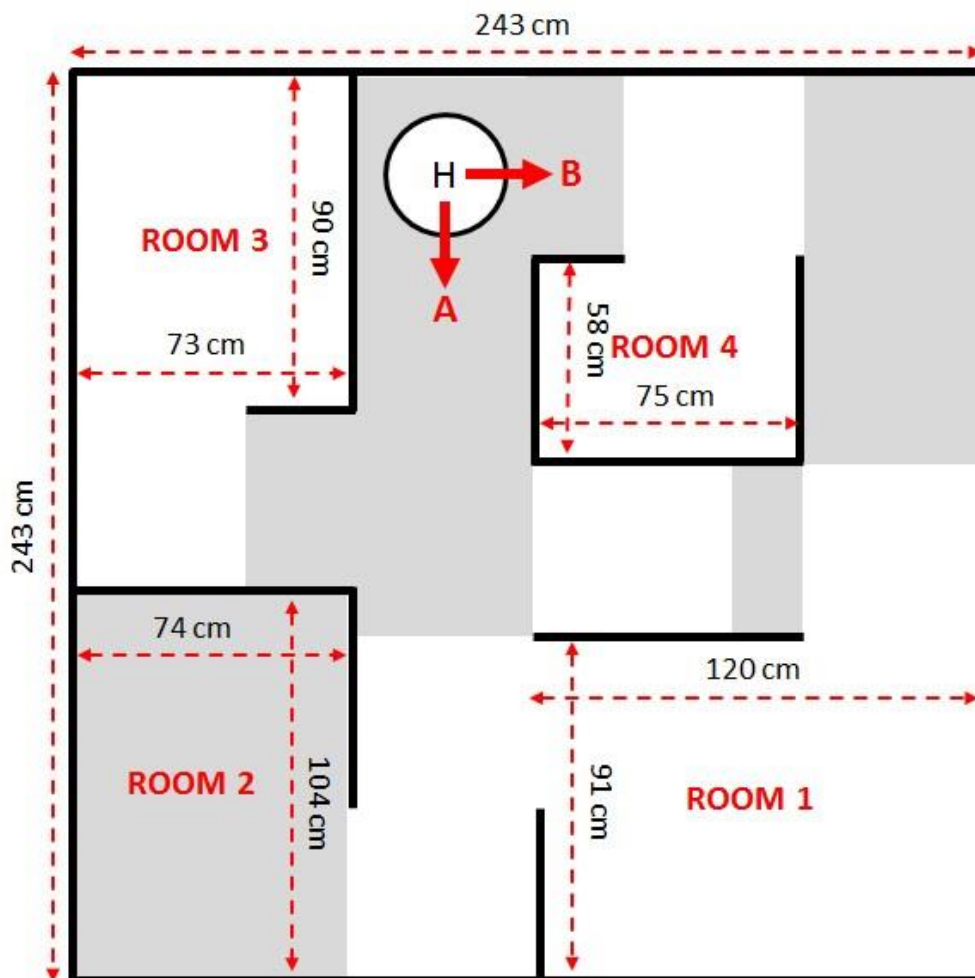

Figure 1: Contest Arena. Shaded areas mark possible rug positions. Red arrows show possible robot start orientations.
The Contest Arena layout represents a decorated home, a more realistic fire-fighting environment. Figure 1 shows the layout of the Contest Arena. All the measures presented in the figure are approximate and may vary from arena to arena.
7. Rugs will be placed in the Arena. There will be no shag rugs. Shaded areas in figure 1, mark possible rug positions. The rugs can occupy the entire shaded area or part of it.
Except in Arbitrary Start Location Mode (see section 6.5.1.3), the robot will start at the Home Circle location marked by the H in Figure 1; a 30 cm diameter solid white circle, without the H, centered in the halls intersecting at the corner.
The Judge will place the robot on the Home Circle so that the central axis of the robot body is aligned within $\pm 10^\circ$ of either hallway axis and the robot's front is directed toward the hallway. The A and B arrows in Figure 1 show the possible orientations. The Judge will randomly choose the orientation for each trial.